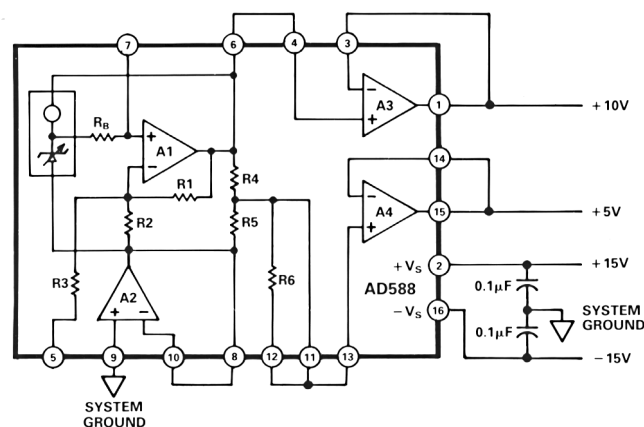
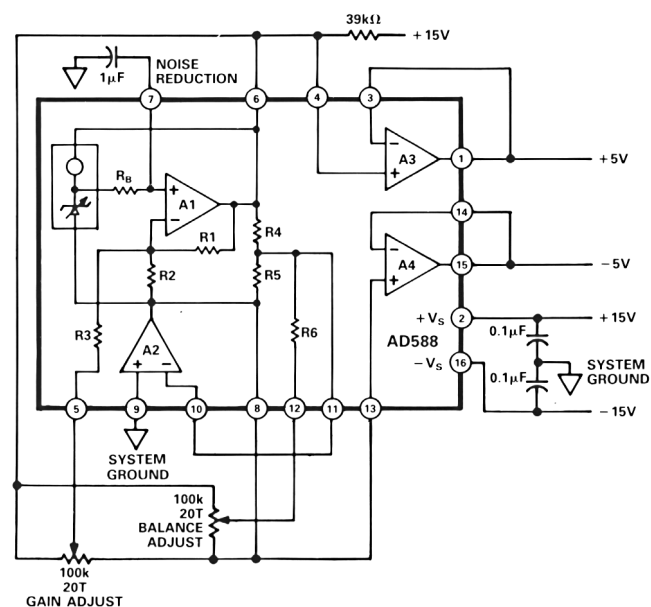
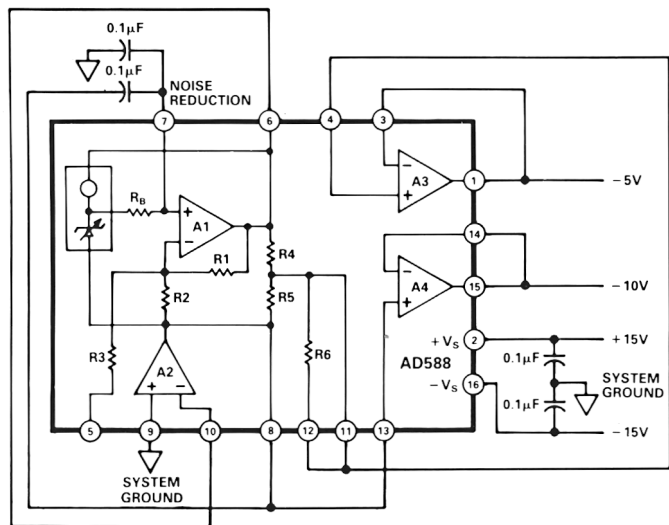

Figure 2a. +10 V Output
Figure 2b. +5 V and -5 V Outputs
Figure 2c. -10 V Output
+10 V Configuration Figure 2a
-10 V Configuration Figure 2c
+5 V, -5 V, ±5 V Configuration Figure 2b
The AD588 can be configured to provide +10 V and -10 V reference outputs as shown in Figures 2a and 2c respectively. It can also be used to provide +5 V, -5 V or a  $\pm 5$  V tracking reference as shown in Figure 2b. Table I details the appropriate pin connections for each output range. In each case, Pin 9 is connected to system ground and power is applied to Pins 2 and 16.
As indicated in Table I, a +5 V buffered output can be provided using amplifier A4 in the +10 V configuration (Figure 2a). A -5 V buffered output can be provided using amplifier A3 in the -10 V configuration (Figure 2c). Specifications are not guaranteed for the +5 V or -5 V outputs in these configurations. Performance will be similar to that specified for the +10 V or -10 V outputs.
Figure 2b shows GAIN and BALANCE trims in a +5 V and -5 V tracking configuration. A 100 k $\Omega$  20-turn potentiometer is used for each trim. The potentiometer for GAIN trim is connected between Pins 6 ( $V_{HIGH}$ ) and 8 ( $V_{LOW}$ ) with the wiper connected to Pin 5 (GAIN ADJ). The potentiometer is adjusted to produce exactly 10 V between Pins 1 and 15, the amplifier outputs. The BALANCE potentiometer, also connected between Pins 6 and 8 with the wiper to Pin 12 (BAL ADJ), is then adjusted to center the span from +5 V to -5 V.
If further noise reduction is desired, an optional capacitor may be added between the NOISE REDUCTION pin and ground as shown in Figure 2b. This will form a low-pass filter with the  $4 \text{ k}\Omega$   $R_B$  on the output of the Zener cell. A  $1 \mu\text{F}$  capacitor will have a 3 dB point at 40 Hz and will reduce the high frequency (to 1 MHz) noise to about  $200 \mu\text{V}$  p-p. Figure 4 shows the 1 MHz noise of a typical AD588 both with and without a  $1 \mu\text{F}$  capacitor.
Note that a second capacitor is needed in order to implement the NOISE REDUCTION feature when using the AD588 in the -10 V mode (Figure 2c.). The NOISE REDUCTION capacitor is limited to  $0.1 \mu\text{F}$  maximum in this mode.